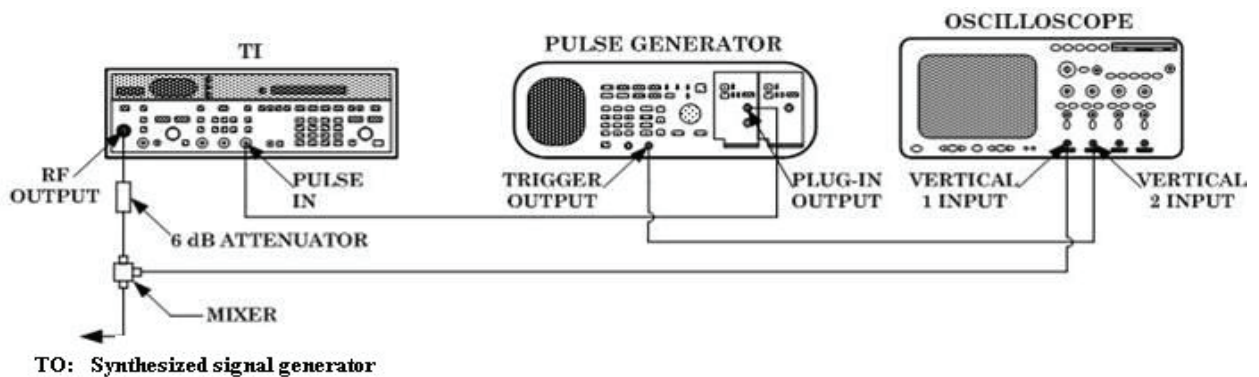
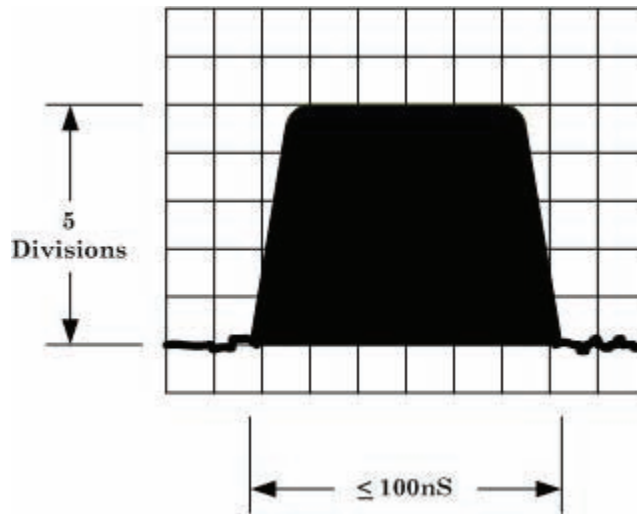

Figure 7. Pulse modulation hookup.
Figure 8. Pulse modulated display.
(1) Disconnect cable from local oscillator **RF OUTPUT** connector.
(2) Connect equipment as shown in figure 7.
The next several tests require that you adjust the oscilloscope as necessary to obtain a centered 5 division pulse as shown in figure 8.
- (1) Connect equipment as shown in figure 7. Remove TI top cover.
- (2) Press TI keys as listed in (a) through (g) below.
- (3) Set the synthesized signal generator to produce a 2.050 GHz signal at 8 dBm and turn on the **RF OUTPUT**.
- (4) Reset the pulse generator then set to produce a 1 MHz pulse train with a width of 100 ns, **VHI** of 5 and **VLO** of 0, and turn the output on.
- (5) Press oscilloscope controls as listed in (a) through (h) below:
- (6) Adjust oscilloscope as required for centered five division pulse as in figure 8.